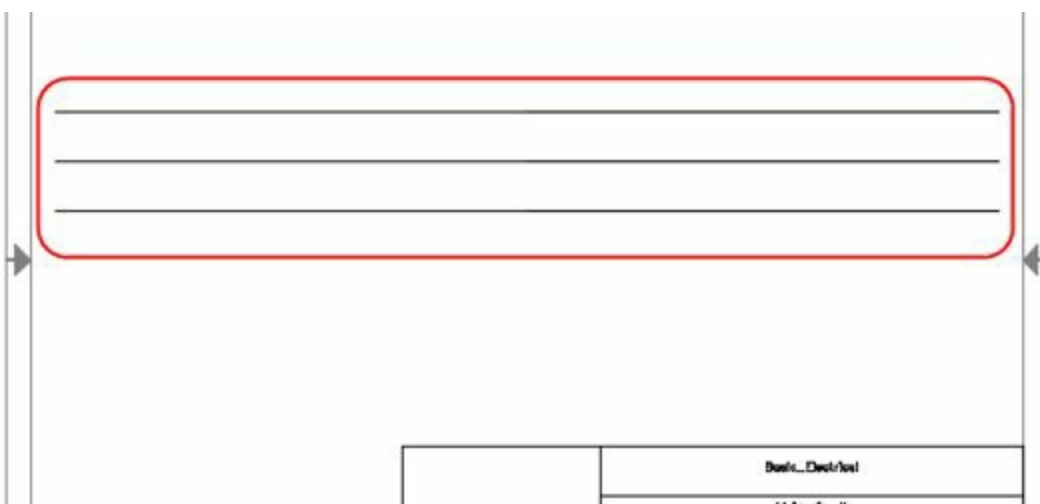

Figure-54. Wire bus to be created
- Click on the drawing area and create the wire bus as shown in Figure-54.